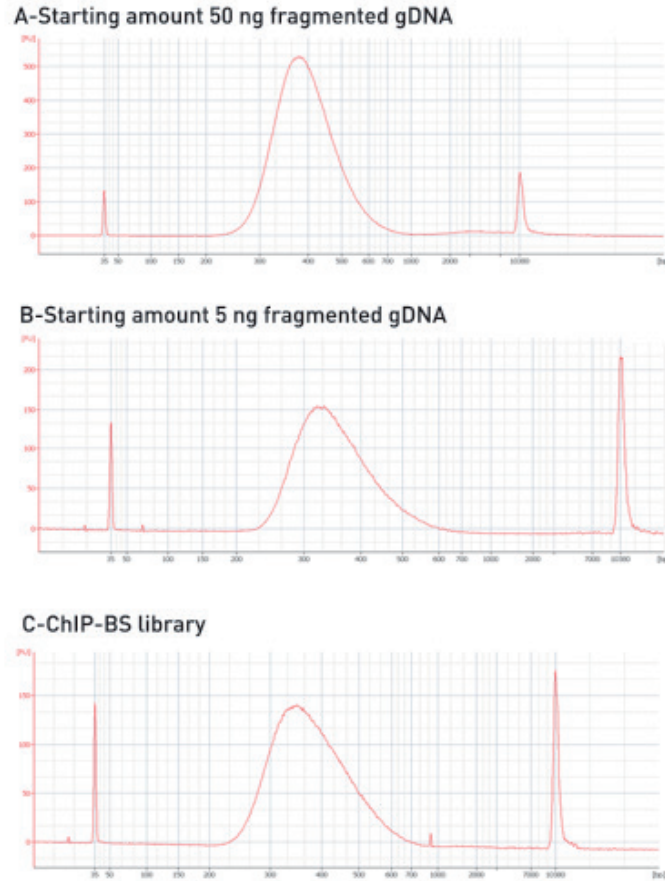

Figure 4. Bioanalyzer profile of different libraries obtained with the Premium WGBS Kit.
26. Examine your library with a fluorometer and check the size using an Agilent Bioanalyzer or 2% agarose gel (See Examples in Figure 4).